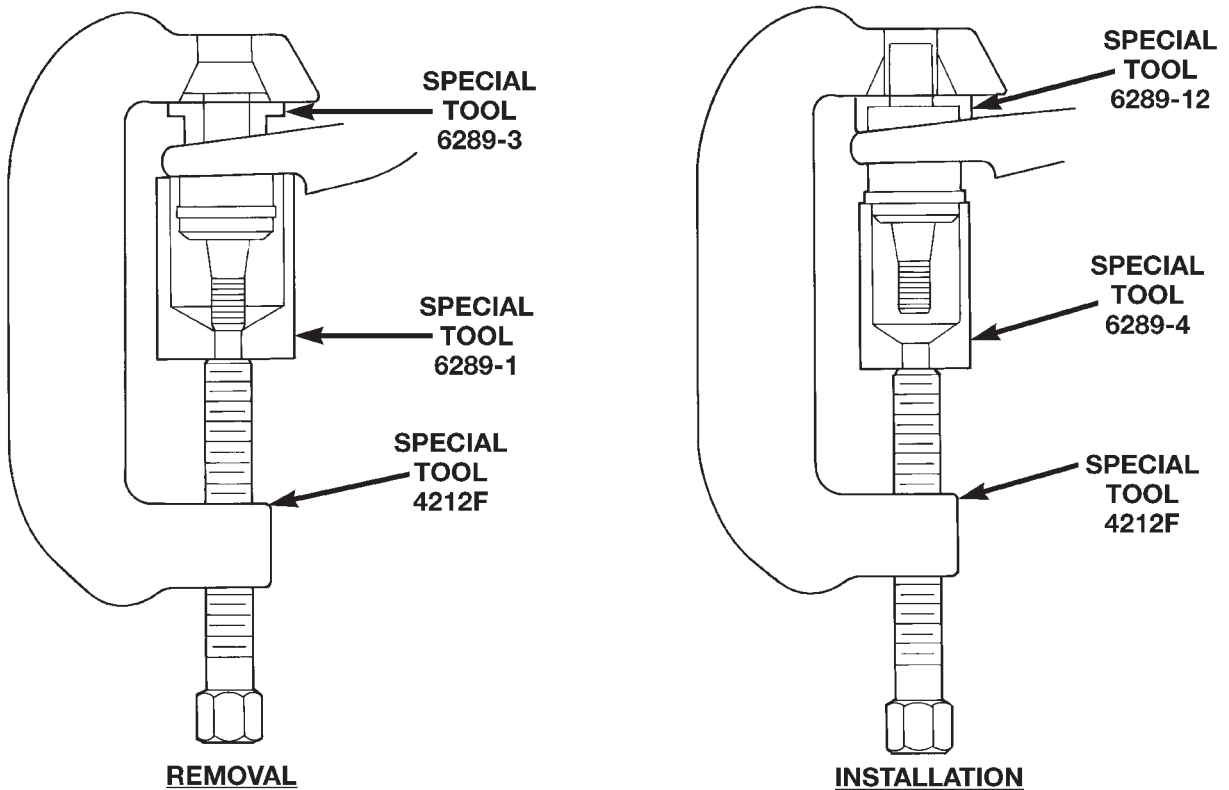

Fig. 23 Lower Ball Stud Remove/Install
- (1) Position tools as shown to remove and install ball stud (Fig. 23).